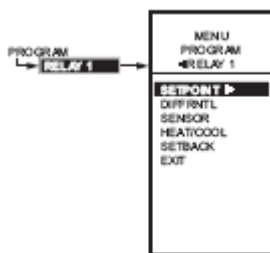

Fig. 2
2. Press the ► button to select RELAY 1 to view the parameters. Fig. 2 shows RELAY 1.